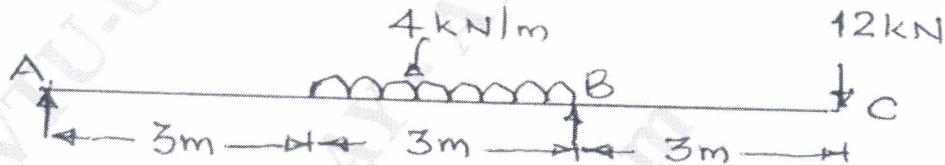

Fig. Q.9 (b)
- b. An overhanging beam ABC is loaded as shown in fig Q.9 (b). Determine the slope and deflection at its free end C. Take $E = 2 \times 10^5 \text{ N/mm}^2$ and $I = 5 \times 10^8 \text{ mm}^4$. (10 Marks)